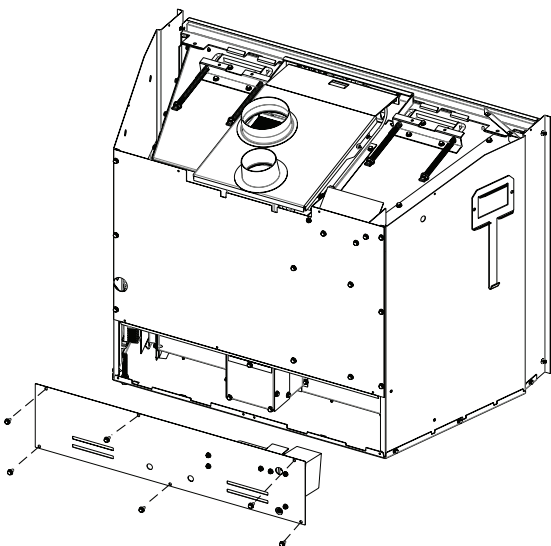

Figure 2
3. Remove 6 screws to blower assembly and disconnect wire harness to blower. Discard blower assembly, it will not be needed. **See Figure 2.**